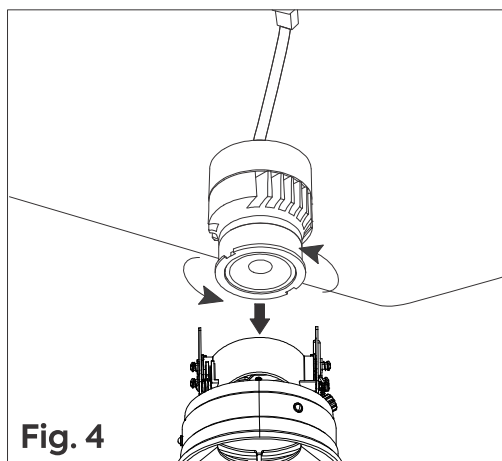

Fig. 4
Step 5: Install the ELIUM® LED Module onto the trim **Fig. 4**.